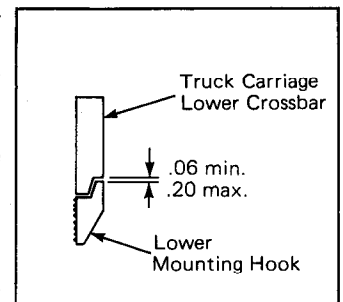

Figure 5. Lower Hook Clearance
7. Install the adjustable lower mounting hooks. **NOTE:** The hooks should not contact the truck carriage lower crossbar. The serrations on the hook allow you to move the hook up or down to attain a clearance between the minimum and maximum clearance shown in Figure 5. Torque the mounting cap-screws to 65–70 ft.-lbs.